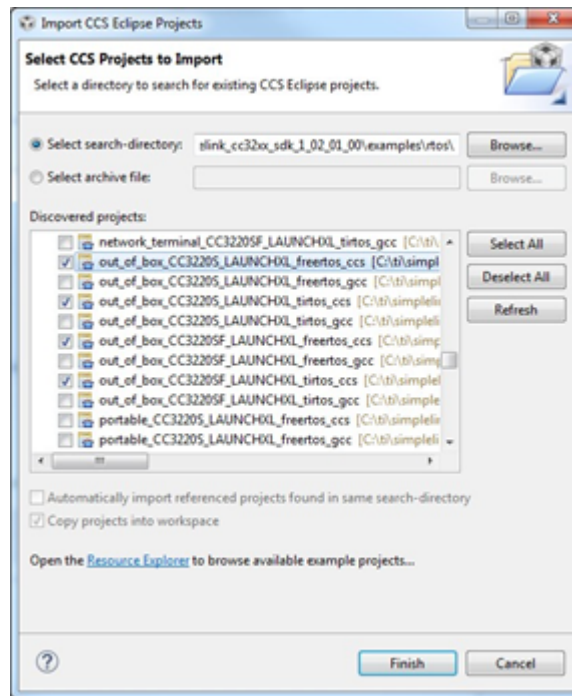

Figure 37. Import OOB Project
3. Import the OOB project using CCS IDE from the following location, according to the connected CC3220 device and the desired OS (freertos or tirtos, see Figure 37).